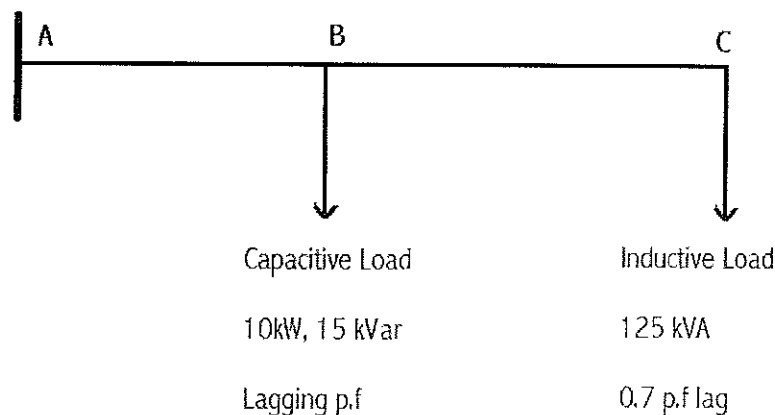

Figure Q4
- II. A single line diagram of a distribution section of a simple power system is shown in figure Q4 and sectional impedances of the system are shown in table Q4. The voltage at the point C is maintained at 11 kV. Calculate,